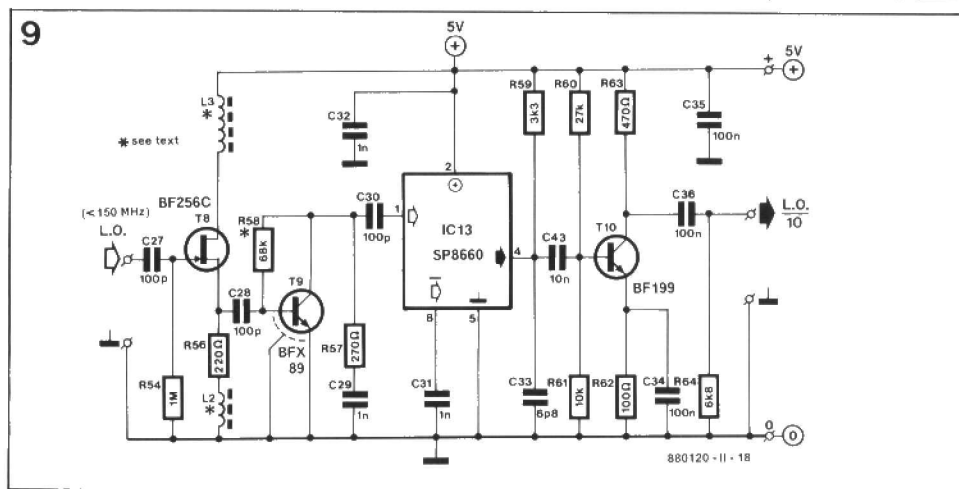

Fig. 9. The VHF prescaler is composed of a two-stage preamplifier, an ECL decade counter and a digital interface.
The VHF prescaler is a rather more elaborate circuit — see Fig. 9. Ahead of the divide-by-ten ECL counter, IC_{13} , is a two-stage direct-coupled wideband amplifier, T_8 - T_9 . Although the SP8660 is stated to have a TTL- and CMOS compatible open collector output, some interfacing and filtering of the signal is required before it can be applied to the LO input of the MC145157 (IC_1). Sensitivity of the VHF prescaler decreases from 30 mV_{rms} at about 100 MHz to 500 mV_{rms} at 190 MHz (note that the latter frequency exceeds the maximum specification of the SP8660). In an experimental set-up, the VHF prescaler was found to have an absolute maximum
- VHF prescaler (Fig. 9).